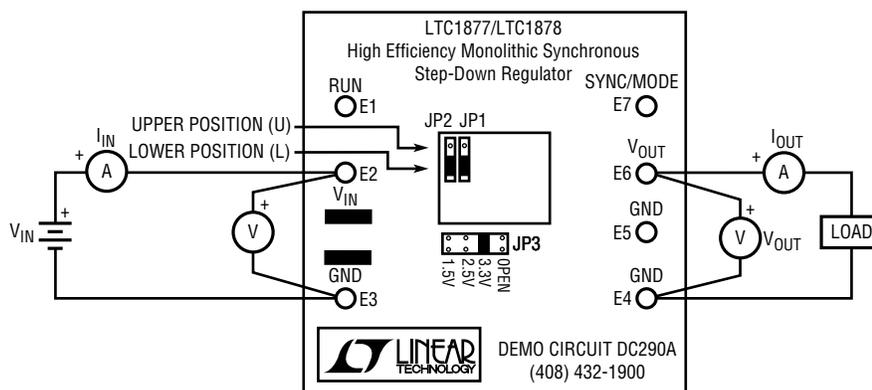

Figure 5. Proper Measurement Setup
- Refer to Figure 5 for proper connection of monitoring equipment to ensure correct measurement.
The LTC1877 and the LTC1878 are capable of Burst Mode operation, in which the internal power MOSFETs operate intermittently based on load demand. To enable Burst Mode operation, simply position jumper JP1 in the lower position to connect SYNC/MODE to  $V_{IN}$ . To disable Burst Mode operation and enable PWM pulse skipping mode, position JP1 in the upper position to connect SYNC/MODE to GND (see Figure 5). In this mode, the efficiency is lower at light loads, but becomes comparable to Burst Mode operation when the output load exceeds 50mA. The advantage of pulse skipping mode is lower output ripple and less interference to audio circuitry.
When trying to measure voltage regulation, remember that all measurements must be taken at the point of regulation. This point is where the LTC1877's and LTC1878's control loop looks for the information to keep the output voltage constant. In this demonstration board, this point occurs between  $V_{OUT}$  (E6) and GND (E4). Measurements should be taken at these points and not at the end of test leads at the load. Refer to Figure 5 for the proper monitoring equipment configuration.